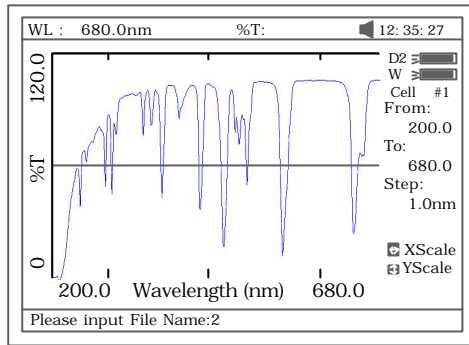

Fig 15
- ✧ Name the curve by pressing the numeric keypad (Fig 15), press the key **【ENTER】** to confirm.
- (2) If the name already exists in memory, the warning “duplicated name, are you sure ? ” will appear . “ Yes ” for overwrite and “ No ” for Exit.
- (3) The length of filename is less than 4.